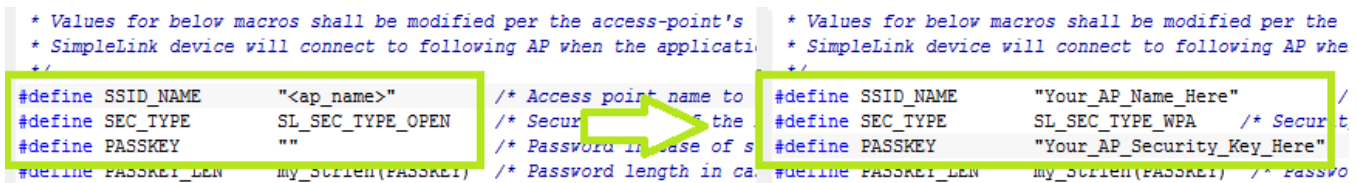

Figure 15. Macro Definition of SSID_Name
5. Edit *sl_common.h* to use the SSID, security type and security key of the AP being used. Edit the macros *SSID_NAME*, *SEC_TYPE*, and *PASSKEY* to contain the AP information as shown in Figure 15. The security types supported for this demo are WPA/WPA2 and Open. For Open security, define *SEC_TYPE* as *SL_SEC_TYPE_OPEN*. For WPA and WPA2 security, define it as *SL_SEC_TYPE_WPA*.